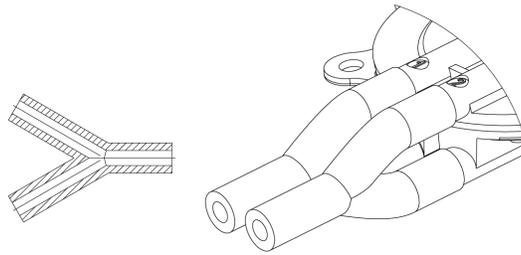

Figure 9. Y coupler for Parallel configuration pump.
- Ports 2 and 4 are the common inlet and should be linked – Y coupler provided in the kit as shown in Figure 9.
- Ports 1 and 3 are the common discharge and should be linked – Y coupler provided in the kit as shown in Figure 9.